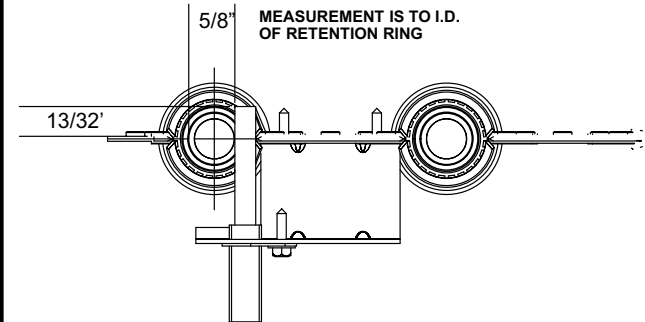

FIGURE 9
All G32-5 and later units are equipped with the Lennox two-stage integrated SureLight control board. The system consists of a ignition control board (figure 14 with control terminal designations in tables 7, 8 and 9) and ignitor (figure 9). The board and ignitor work in combination to ensure furnace ignition and ignitor durability. The board controls all major furnace operations. The board features two LED lights, DS1 and DS2 for troubleshooting. The board also has two accessory terminals rated at (1) one amp each. See table 10 for troubleshooting diagnostic codes.